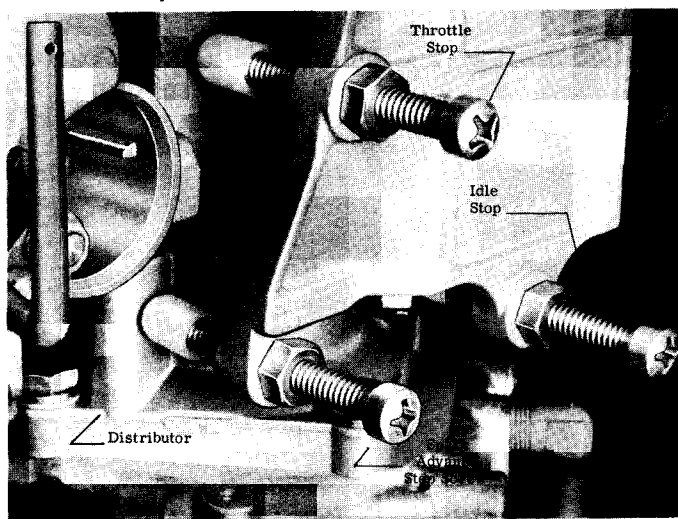

Figure 3. Spark Advance Adjustment
11. Retard distributor against "idle speed" stop screw. (Figure 3)